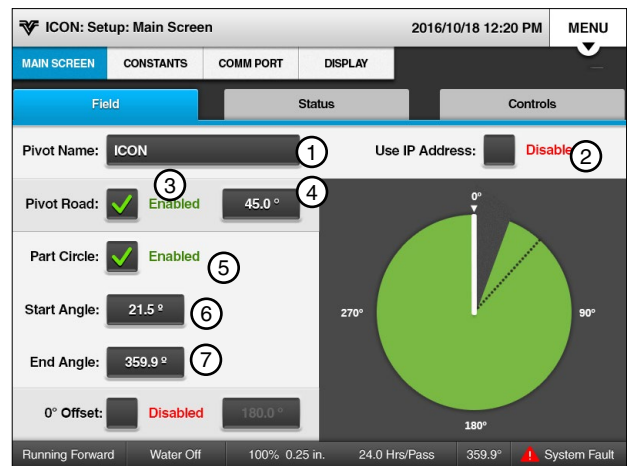

Figure 11-2 1. Pivot Name 2. Use IP Address 3. Pivot Road 4. Pivot Road Position 5. Part Circle Checkbox 6. Start Angle 7. End Angle
1. Push **Menu**, **Setup**, **Main Screen**, and **Field** to display the Field screen. Refer to Figure 11-2.
1. To enable part circle pivot and set the start and end angles, Push **Menu**, **Setup**, **Main Screen**, and **Field** to display the Field screen. Refer to Figure 11-2.